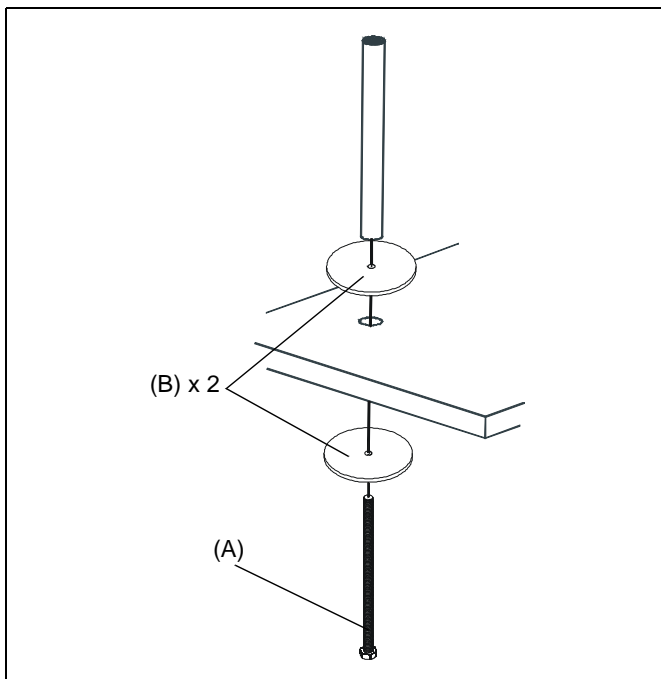

Figure 1
1. Locate desired point on surface where mount is to be installed. (See Figure 1)
3. Align upper and lower grommets (B) with hole in surface.
4. Slide one 3/8-16 x 6" hex head cap screw (A) upward through lower grommet (B), through hole in surface and through upper grommet (B).
5. Place pole, provided with array accessory, onto upper grommet (B) aligning threaded hole in pole bottom with threaded end of 3/8-16 x 6" hex head cap screw (A).
6. Thread 3/8-16 x 6" hex head cap screw (A) into pole bottom and tighten with 9/16" wrench to secure pole and grommets (B) to surface.